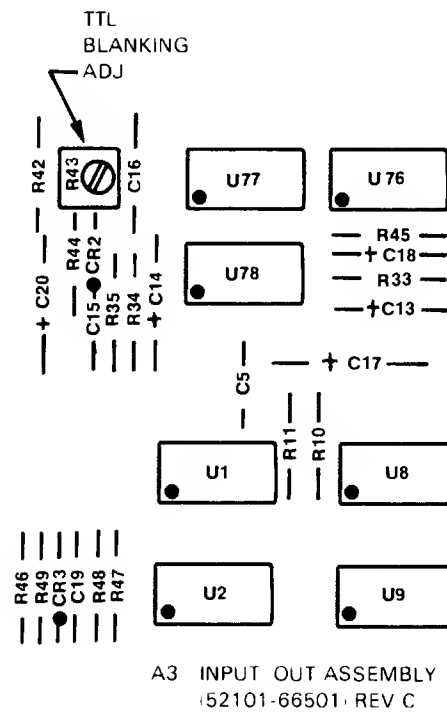

Figure 5-12. Blanking Delay Adjustment Location on Input/Output Board
- g. Adjust Blanking Delay A3R43 (figure 5-12) on Input/Output Board until a spot directly above the right end of the horizontal line is extinguished.